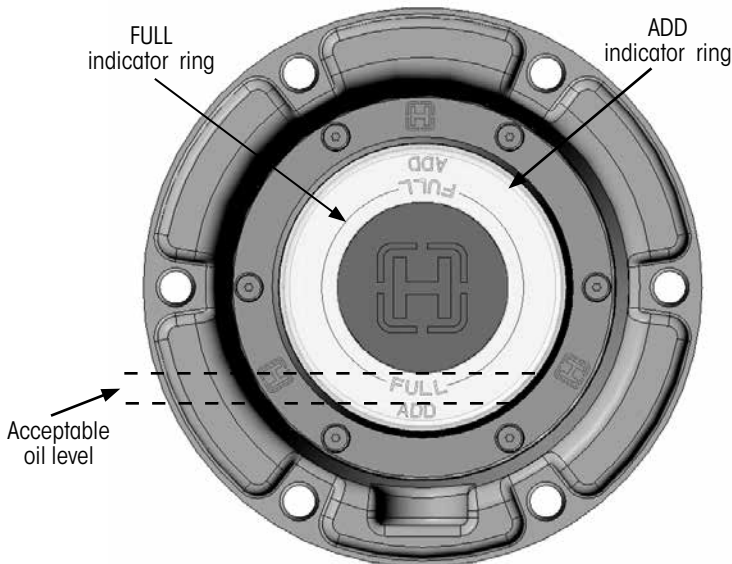

Figure 21: Fill levels for oil lubricant
2. Fill wheel-end with oil until the oil level is above the "ADD" and to the "FULL" indicator ring of the hubcap window shown in Figure 21.
IMPORTANT: The oil level should be maintained to the hubcap full indicator ring (Figure 21). Oil can be added to exceed the FULL line, but must remain below the spindle center (Figure 21). Oil levels above this risk contamination and loss of oil through the axle plus a reduction in lubricating performance.